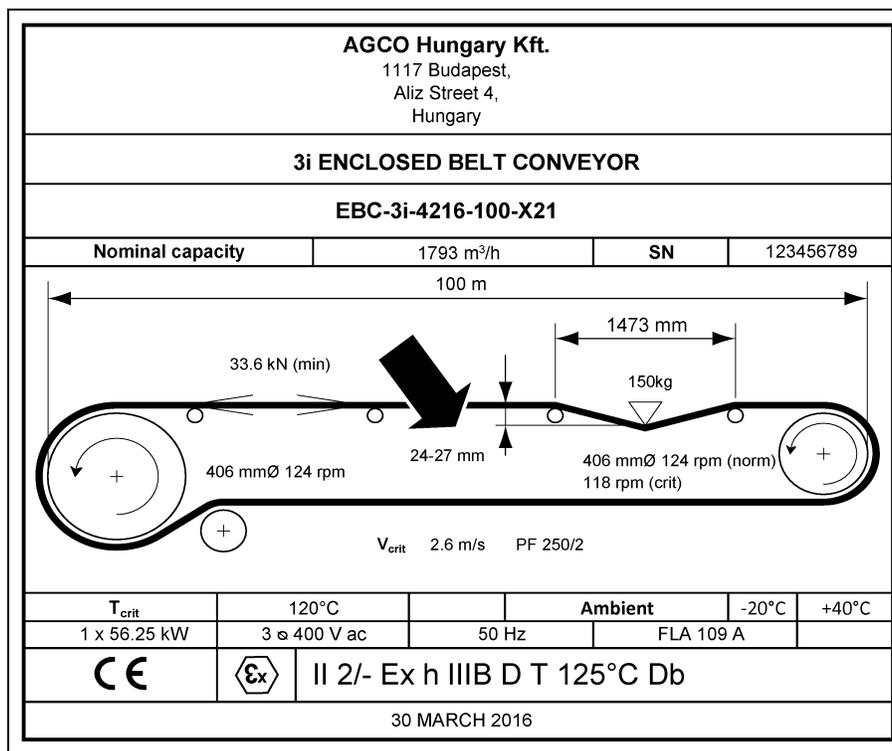

Figure 4V Rating Plate Showing Belt Deflection
7. The required minimum and maximum deflection is marked on the rating plate. *(See Figure 4V.)*